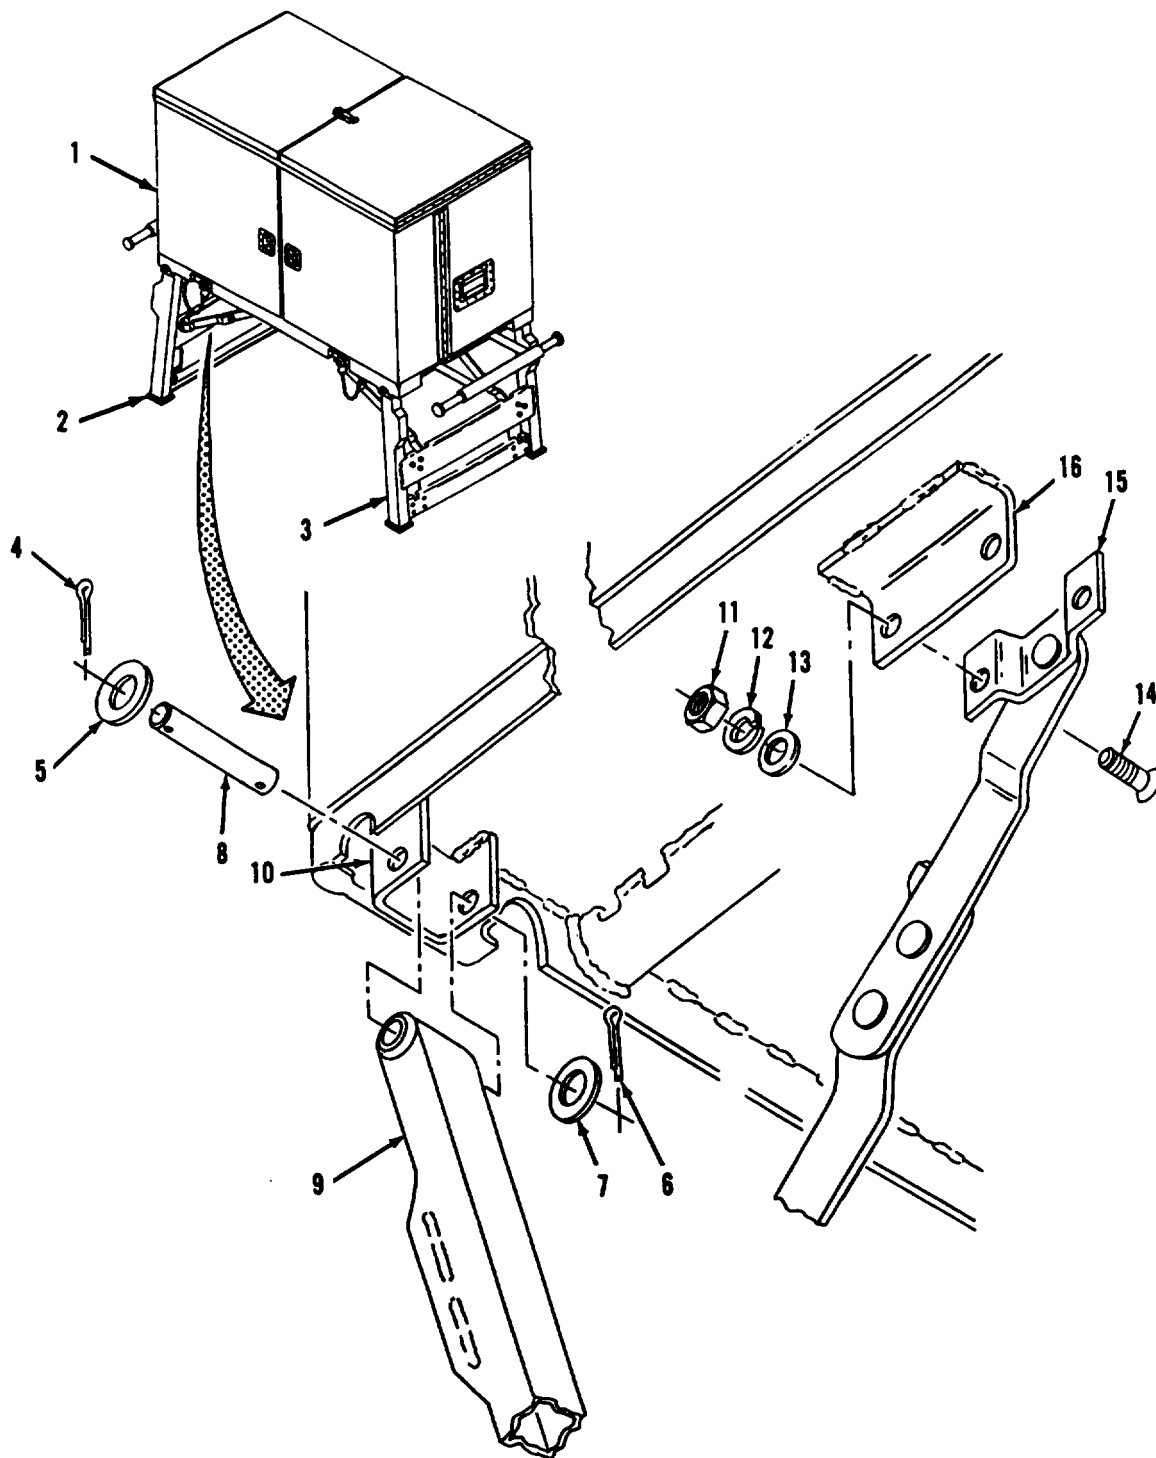

Figure 4-7. Leg Support Removal.
- a. Removal. Refer to figure 4-7.